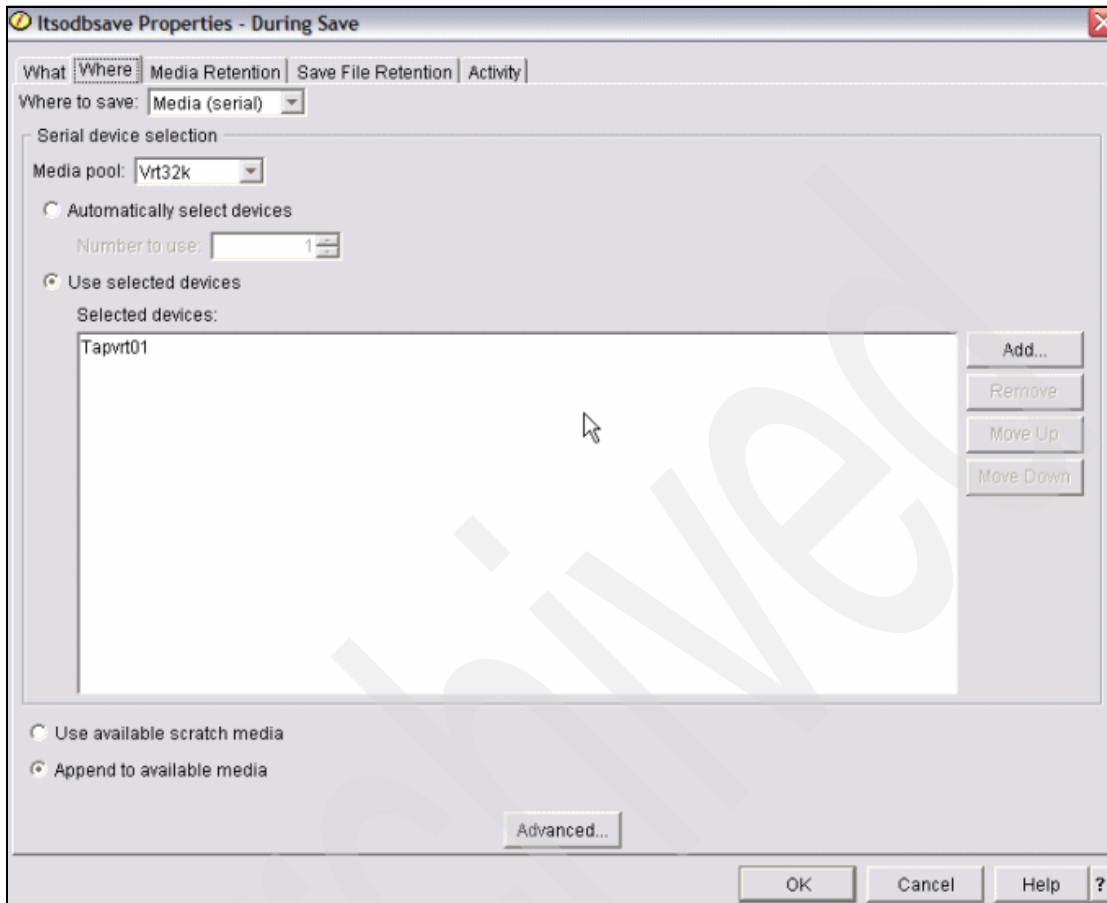
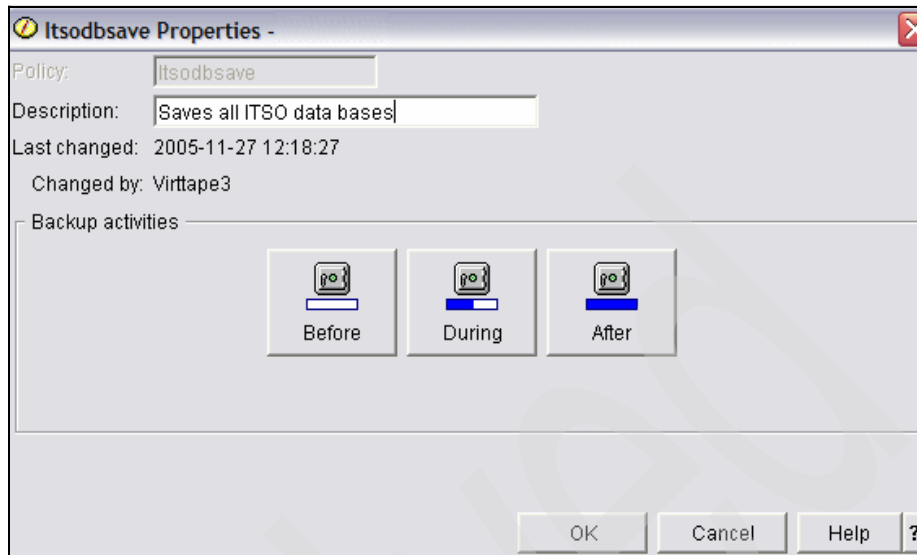

Figure 7-41 Where to save
Figure 7-43 Properties window
1. Click the **Where** tab. A window similar to the one shown in Figure 7-41 on page 374 appears.
All the other tabs (Media Retention, Save File Retention, Activity) in the During Save window shown in Figure 7-41 on page 374 are only a summary of what has been specified. Therefore, you can leave them unchanged.
4. Click **OK** in Figure 7-41 on page 374 to return to the Properties window shown in Figure 7-43 on page 376.